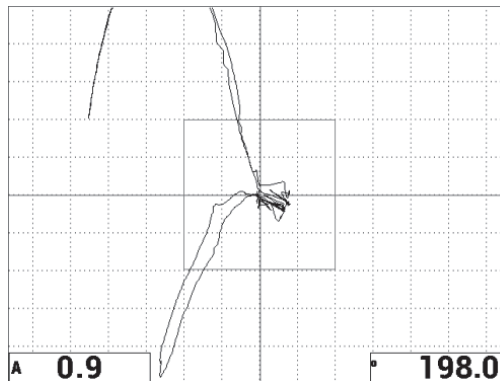

Figure 6-10 The amplitude (A) and phase ($^{\circ}$) of the XY flying dot
The readings display in real time the amplitude (A) and phase ($^{\circ}$) of the XY flying dot (see Figure 6-10 on page 137). For information on how to change the real-time readings, see “Displaying Real-Time Readings” on page 66.